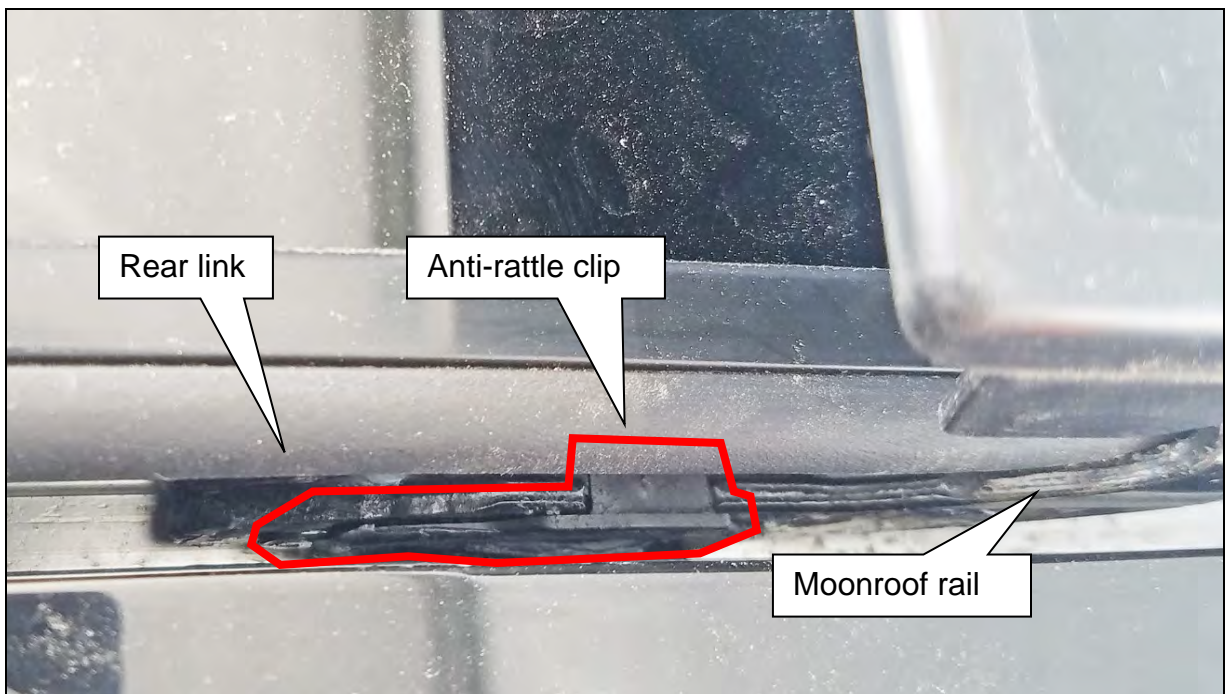

Figure 77
- Refer to Figure 77 for an example of a GOOD anti-rattle clip.